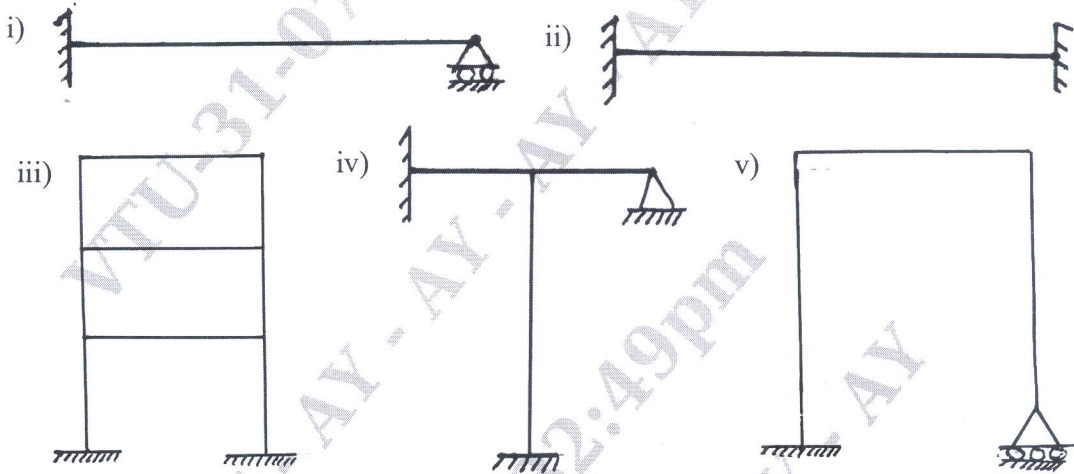

Fig.Q1(a)
- 1 a. Determine the static degree of indeterminacy for the following structures shown in Fig.Q1(a). Neglect axial deformation.